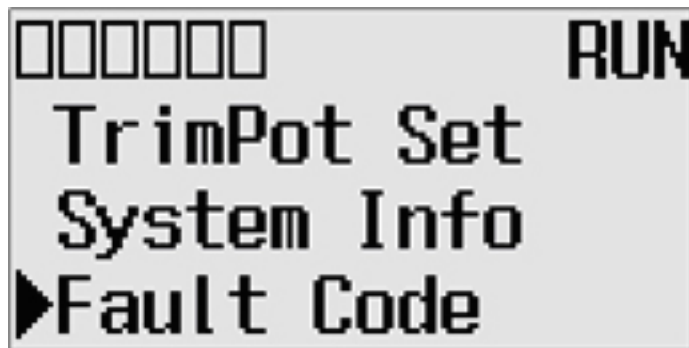

Figure 7 Advanced Settings Menu, Page 2
5. Use the Down key to get to Page 2 of the Advanced Settings Menu (refer to Figure 7 Advanced Settings Menu, Page 2).